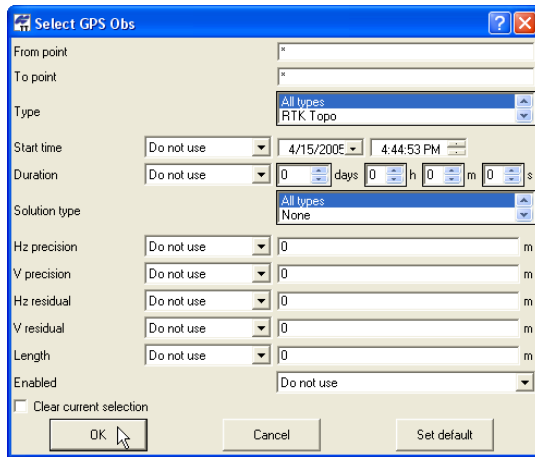

Figure 4-67. Select GPS Observations
On the **Select GPS Obs** dialog box, enter the following information and click **OK** (Figure 4-67 on page 4-71).
- Click **Set default** to apply the defaults shown in Figure 4-67 on page 4-71.